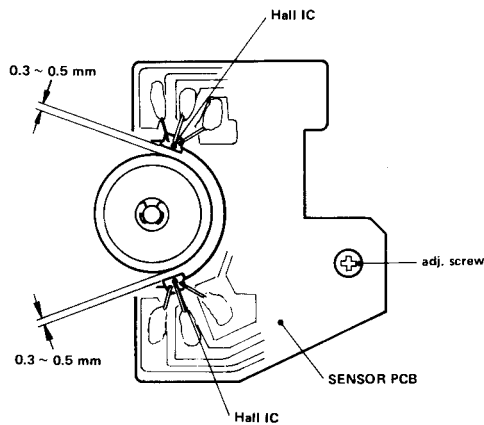

Fig. 4-8
- 1. Adjust by moving the SENSOR PCB assembly so that the clearance shown in Fig. 4-8 is 0.3 ~ 0.5 mm.